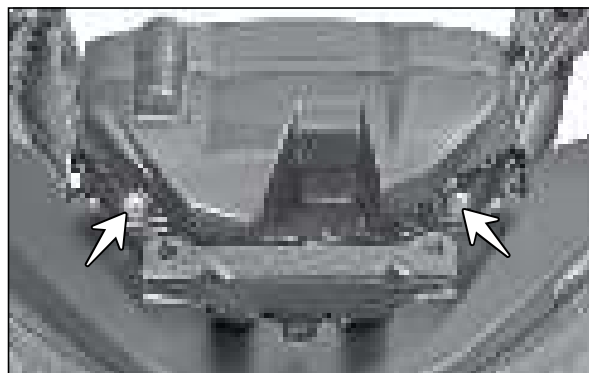

Fig. 6.66
- Remove the CRR pan head screw (M5x16 - 2 Nos.) from the housing speedometer rear mounting and remove the housing speedometer rear. (Fig. 6.66)